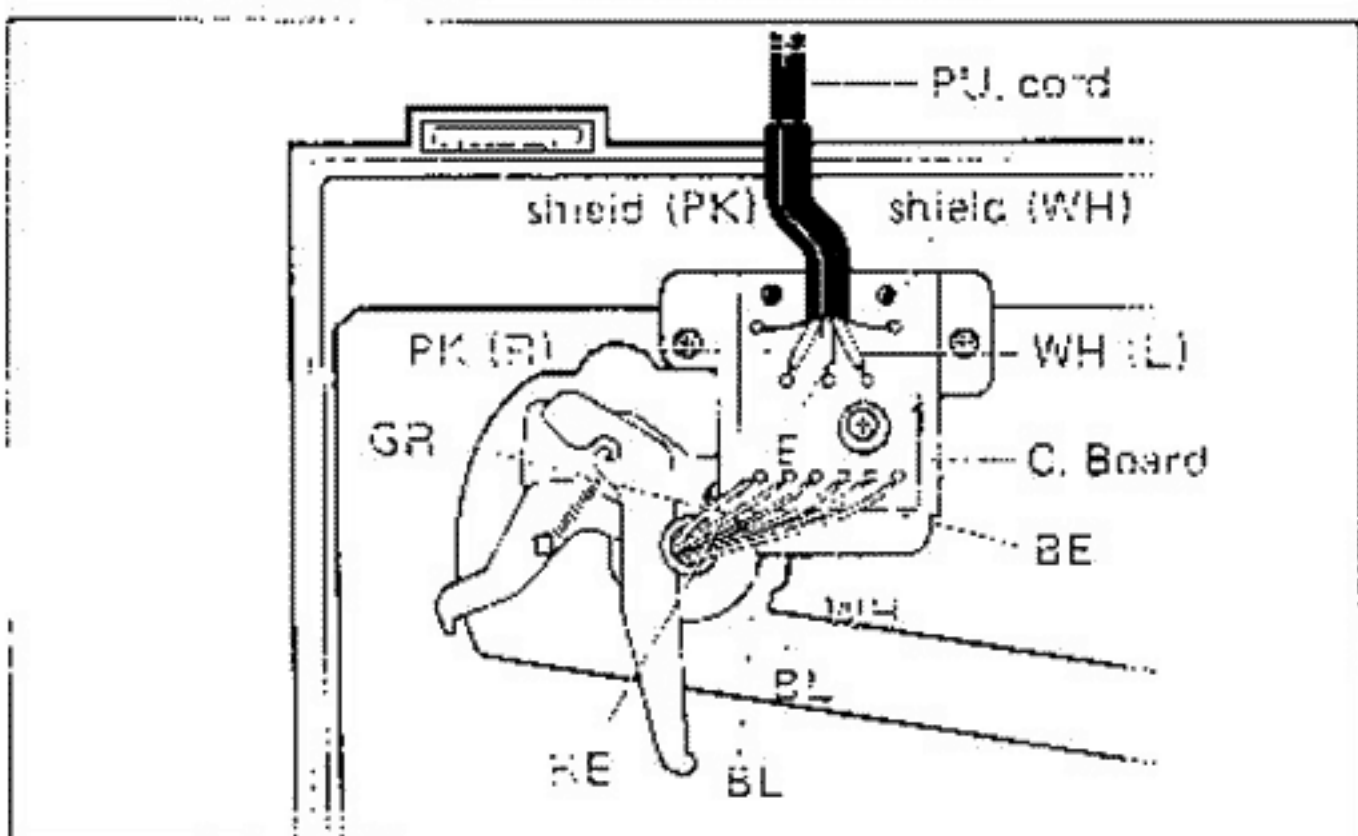

Fig. 3
b. Disconnect the tonearm lead wires in Fig. 3.
c. Remove screw ① in Fig. 3 and replace the PU cord Ass'y.
①: Bind Head B-Tyte Screw 3 x 8